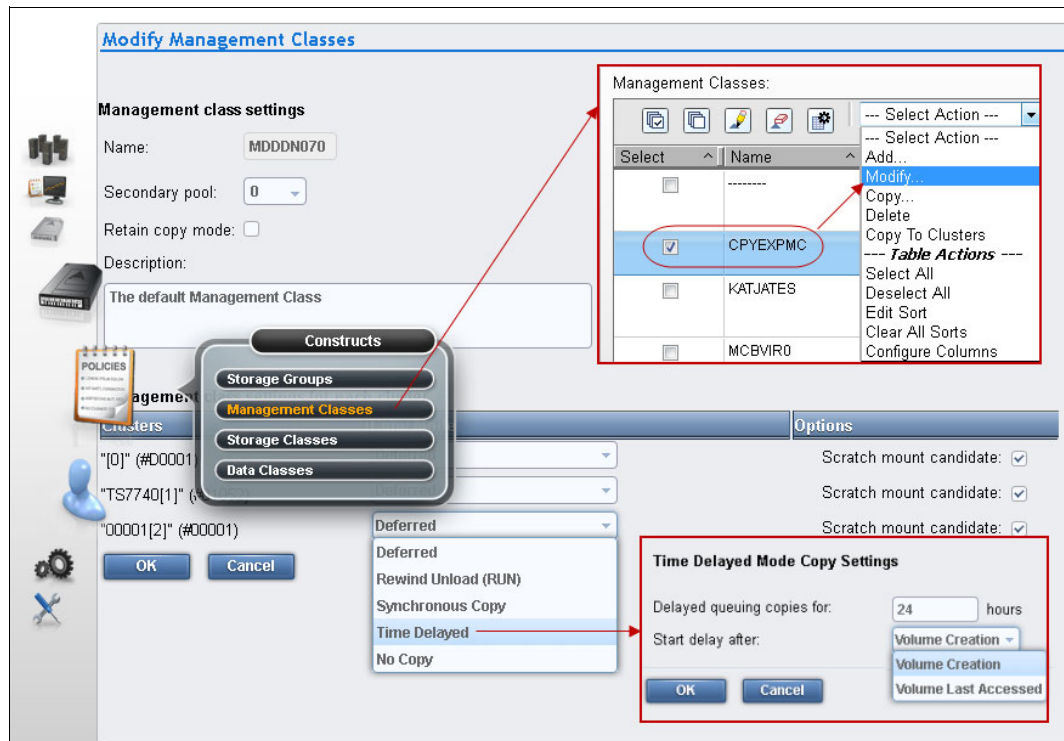

Figure 9-190 Modify Management Classes
- Figure 9-190 shows how to modify the copy consistency by using the Copy Action table, and then clicking **OK**. In the figure, the TS7700 is part of a three-cluster grid configuration. This additional menu is displayed only if a TS7700 is part of a grid environment (options are not available in a stand-alone cluster).
As shown in Figure 9-190, the options of consistency points per cluster are: